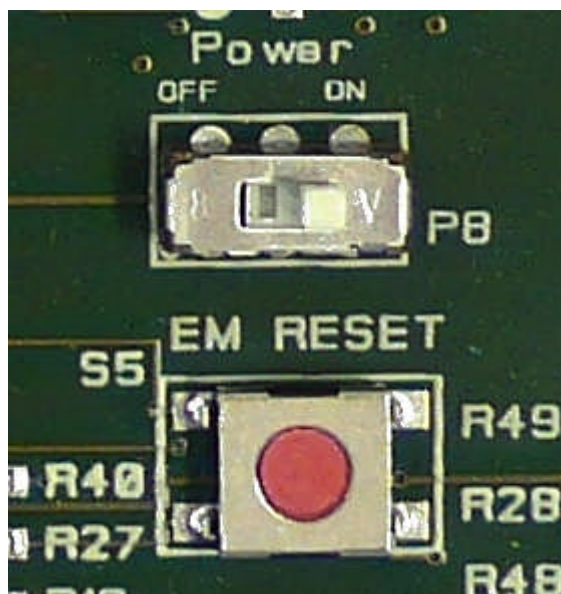

Figure 2 - SmartRF05EB power switch, power on.
1. Turn off the SmartRF05EB power by moving the power switch shown in Figure 2 to the left position.
6. Turn on the power on the SmartRF05EB (see Figure 2).